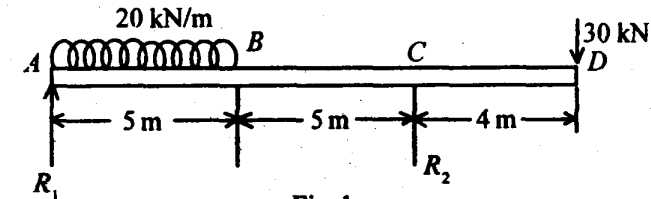

Fig. 1
- (c) Write the shear and moment equations for the beam loaded as shown in Fig. 1, and draw the shear force and bending moment diagrams. Find the section where maximum bending moment occurs.